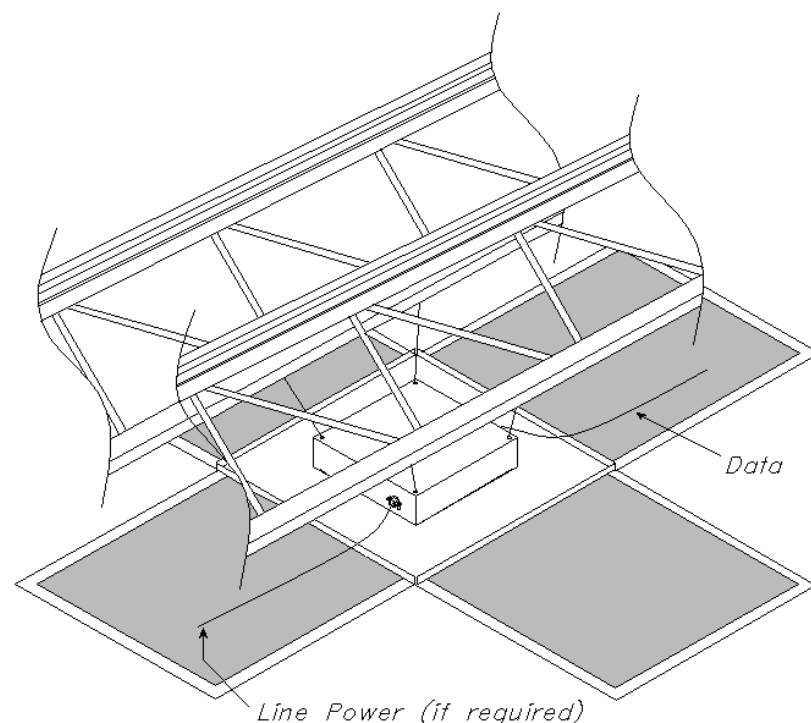

Figure 6 - Ceiling installation.
Step 5 – Remove the ceiling tile from the location where the access point enclosure is to be placed (if necessary) and replace with the assembled unit (ref. Figure 6). Use a minimum of two separate grid wires to attach the *access point enclosure* to the ceiling. Attach one end of the wire to the *eyebolts* and the other end to a permanent structure within the ceiling such as a ceiling joist.